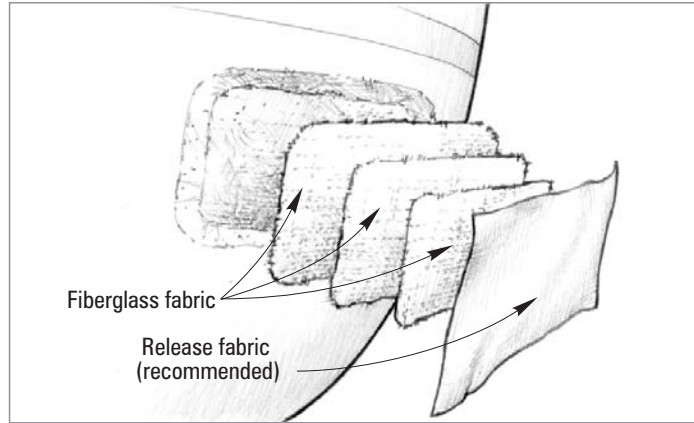

Figure 4-10 Rebuild the laminate to its original thickness using multiple layers of glass cloth, bonded with epoxy.
1. Cut an appropriate number of pieces of fiberglass cloth the same shape as the repair area. The first piece should be slightly smaller than the outside of the beveled edge with subsequent pieces gradually getting smaller. The final layer should be the same size as the bottom of the bevel, and the combined thickness of the layers should be slightly thinner than the original panel to allow for final shaping and fairing. Also cut one piece of WEST SYSTEM 879 Release Fabric or peel ply, several inches larger than the repair area. This will be used to smooth the patch into place (*Figure 4-10*).